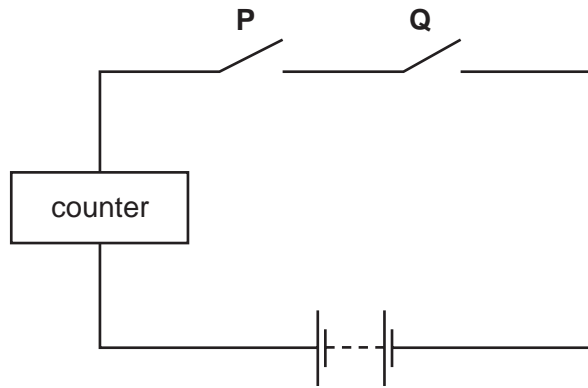

Fig. 6
- (e) Logic gates could be used to control a counter. Fig. 6 shows a pressure pad circuit that is used to trigger a counter when a person steps on pad **P** and, at the same time, presses the push button **Q**.